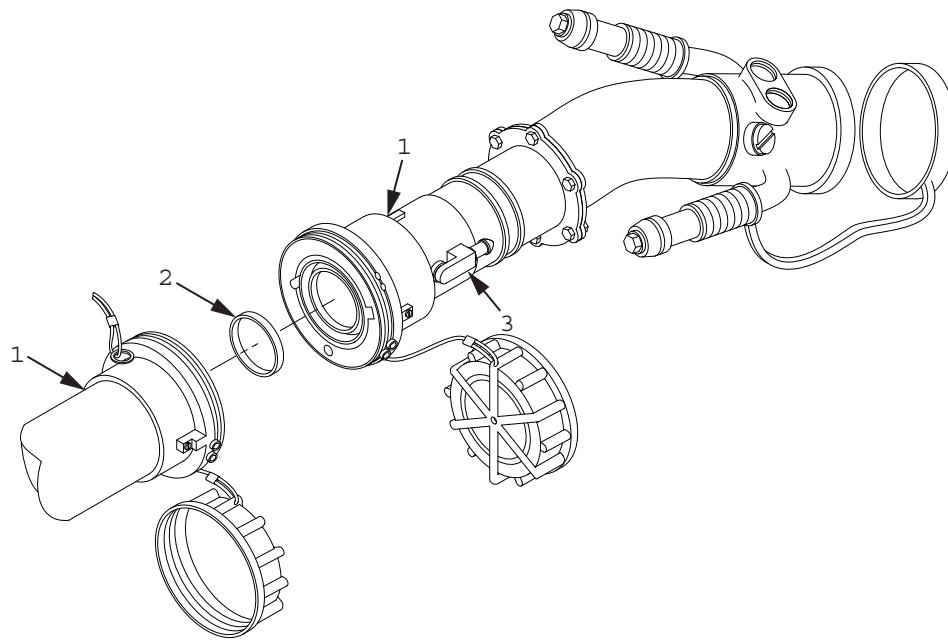

Figure 3. Valved Quick Disconnect Coupling Halves Gasket Removal.
1. Place drip pan under quick disconnect coupling halves (Figure 3, Item 1) to be disconnected.
2. Position shutoff valves (Figure 3, Item 3) in the closed position.
3. Rotate one quick disconnect coupling half (Figure 3, Item 1) counterclockwise.
- a. Disconnect quick disconnect coupling half (Figure 3, Item 1).
- b. Remove and discard defective gaskets (Figure 3, Item 2).
1. Install new gasket (Figure 3, Item 2) in quick disconnect coupling half (Figure 3, Item 1).
- a. Install new gasket (Figure 3, Item 2) in quick disconnect coupling half (Figure 3, Item 1).
- b. Align quick disconnect coupling halves (Figure 3, Item 1) together.
- c. Rotate one quick disconnect coupling half (Figure 3, Item 1) clockwise to connect quick disconnect coupling halves (Figure 3, Item 1).
- d. Ensure quick disconnect coupling halves (Figure 3, Item 1) are securely connected.
- e. Position shutoff valves (Figure 3, Item 3) in the open position.